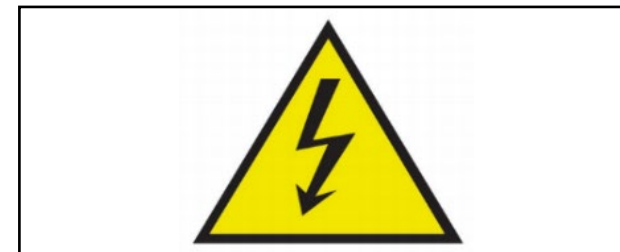

Figure 8 – High Voltage Warning Symbol
- All high voltage modules and batteries have a warning symbol or other identification similar to Figure 8.